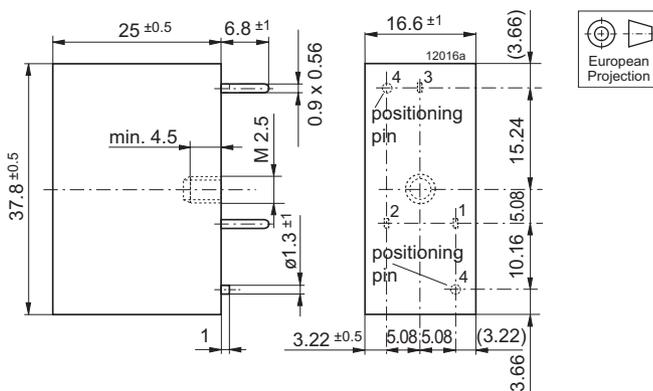

Fig. 21
- Different filters; see fig. 21.